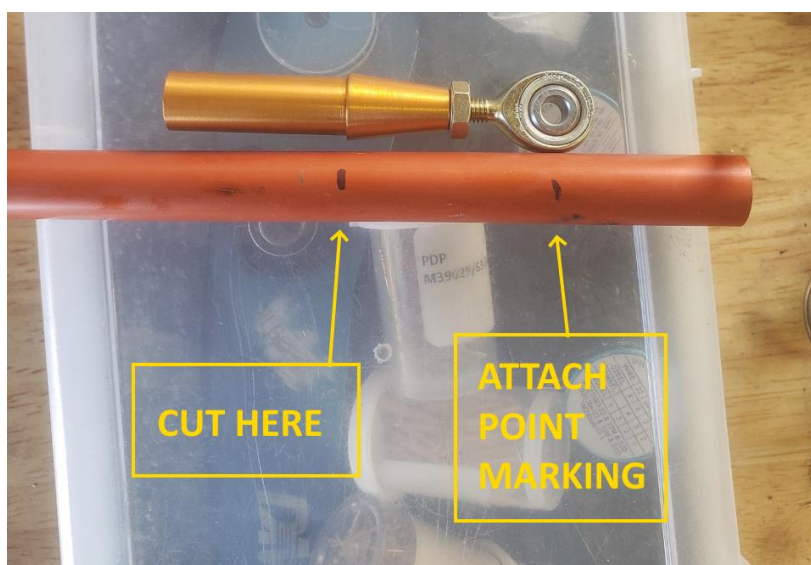

FIGURE 4-6 PUSH PULL TUBE TRIMMING
4.1.24 With the ailerons in the neutral position mark the RH aileron bellcrank forward attach point on the open end of the tube with a sharpie, or equivalent marking device. Refer to Figure 4-6.
4.1.25 Remove the 1006231-1 tube from the aircraft and on the open end of the tube place the provided rod- insert bolt hole next your mark. (with 4 threads showing on the rod end). Make a new marking on the tube at the base of the taper of the insert. Cut the tube at the new marking. Refer to Figure 4-6.